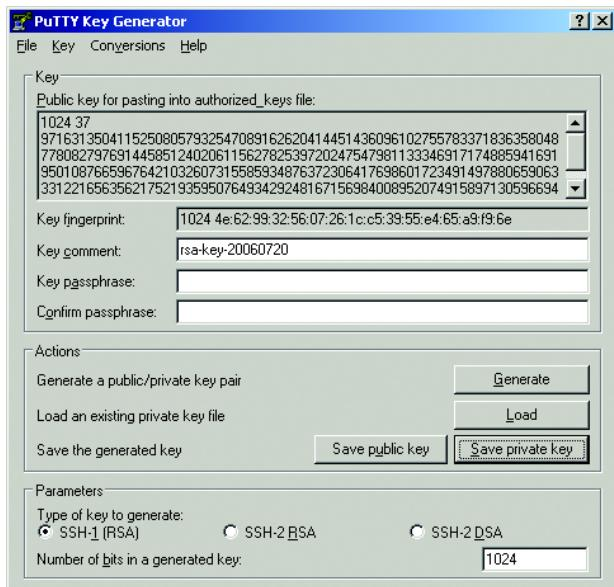

Figure 77: PuTTY key generator
- Check the fingerprint to protect yourself from unwelcome guests. Your fingerprint is located in the “Key” frame of the PuTTY key generator (see fig. 77)